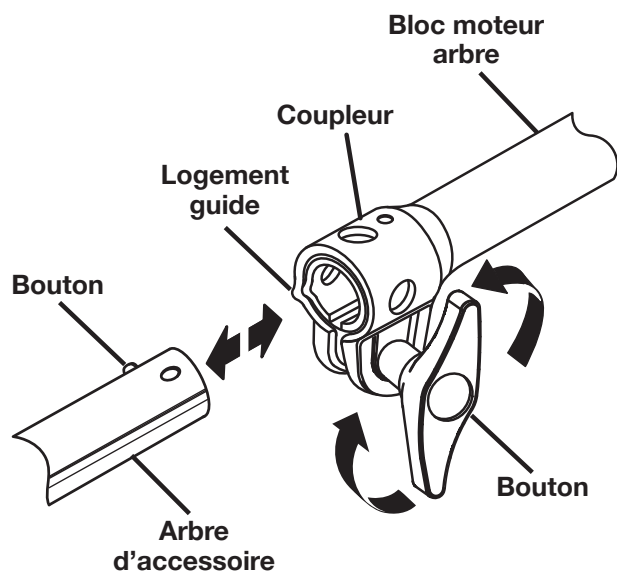

Figure 2
*Voir la figure 2.*
Voir la figure 2.